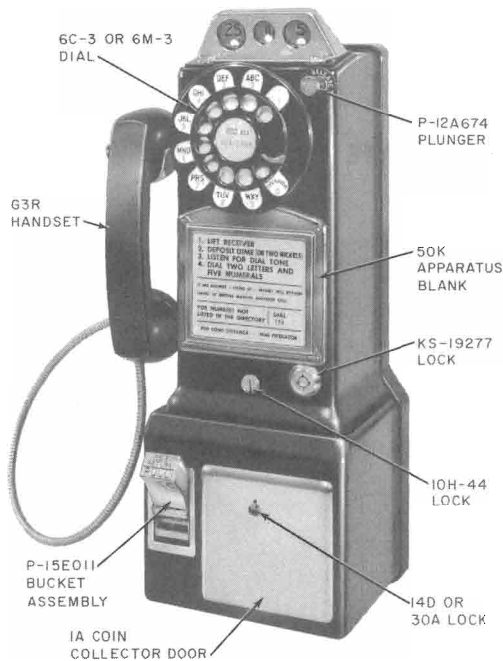

Fig. 3—236G Coin Collector
1.03 The 236G (MD) coin collector (Fig. 3) is a modified 200-type coin collector, having the